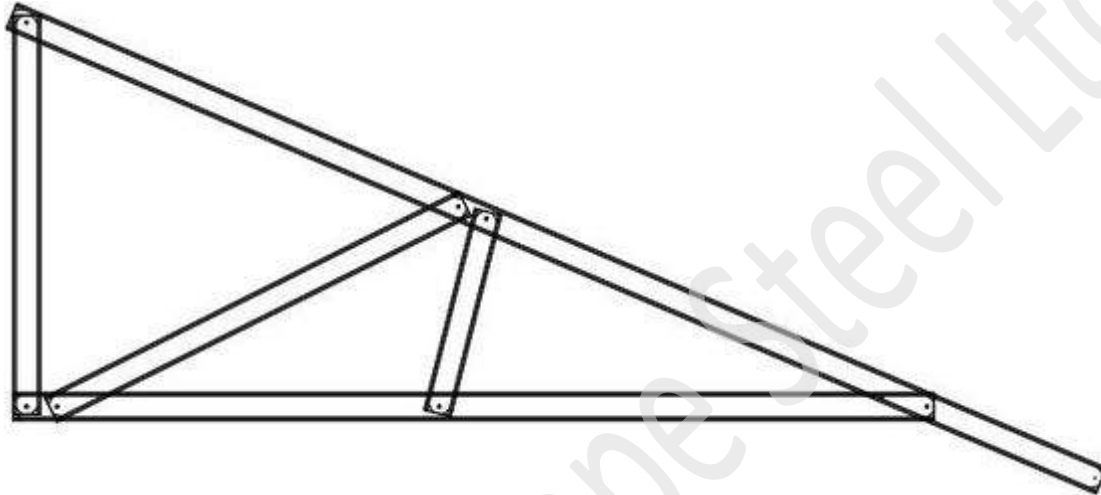

Figure 5.6 Half Truss
5.6) Half Truss: A triangular shaped truss with the end web fixed vertically and at 90 degrees to the bottom chord. It is commonly used to form verandah roofs on the lower floor of two storey homes. (Refer Fig. 5.6)